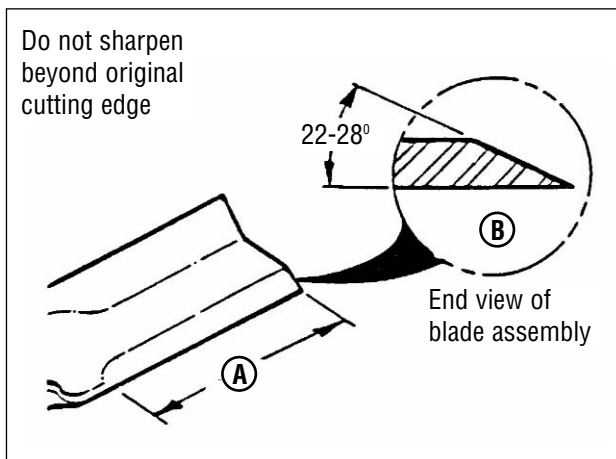

Figure 23: Sharpening the mower blade
- Sharpen the blade on a grinding wheel at an angle of 22 to 28 degrees (B, Figure 23). DO NOT sharpen the blade beyond the original cutting edge (A).